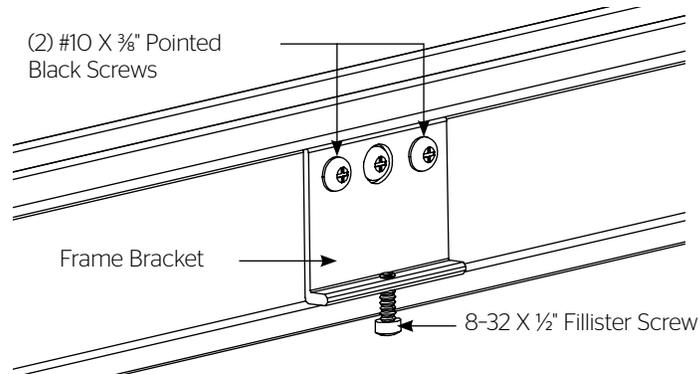

Figure 6 – Screens Under 104" in Viewing Width
- a. For screens under 104" wide viewable, attach (1) frame bracket to the bottom of the screen with (2) #10 x 3/8" pointed BLACK screws (Figure 6).
5. Insert 8-32 x 1/2" zinc plated fillister screw into frame bracket(s) (Figure 6 or 7). Rotate four or five turns only.